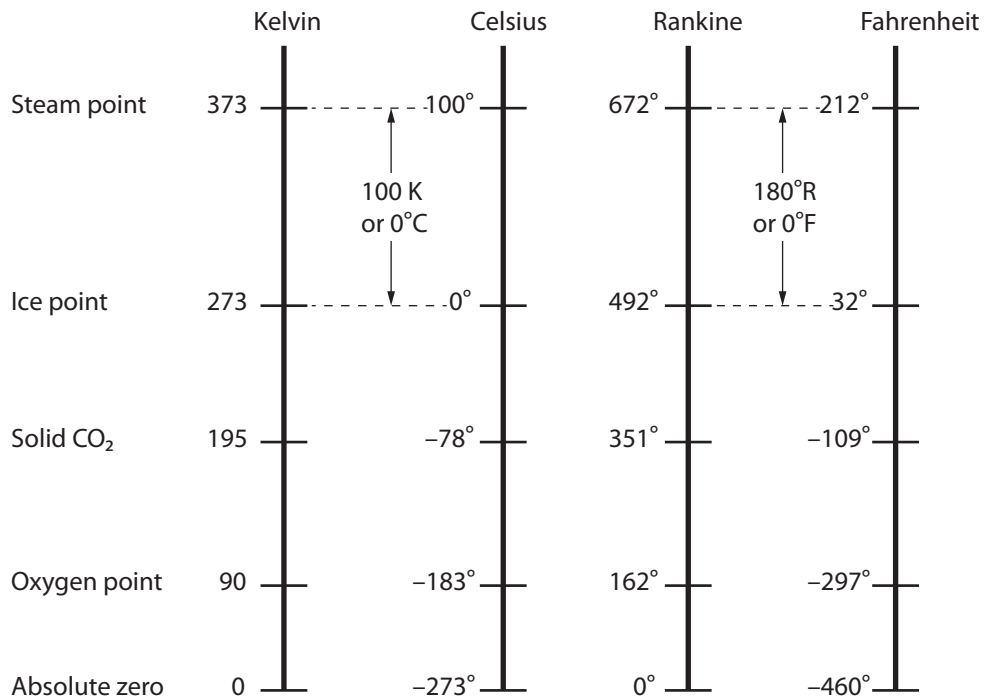

Figure 44—Temperature scales
Adding 273 to the centigrade reading gives you the absolute temperature of a Celsius temperature. Absolute temperatures are measured in kelvins (K). For example, $20^{\circ}\text{C} = 20 + 273 = 293\text{ K}$. Adding 460 to the Fahrenheit reading gives you the absolute temperature of a Fahrenheit temperature. Absolute temperatures are measured in Rankine (R). For example, $20^{\circ}\text{F} = 20 + 460 = 480^{\circ}\text{R}$. Figure 44 shows various temperature scales.